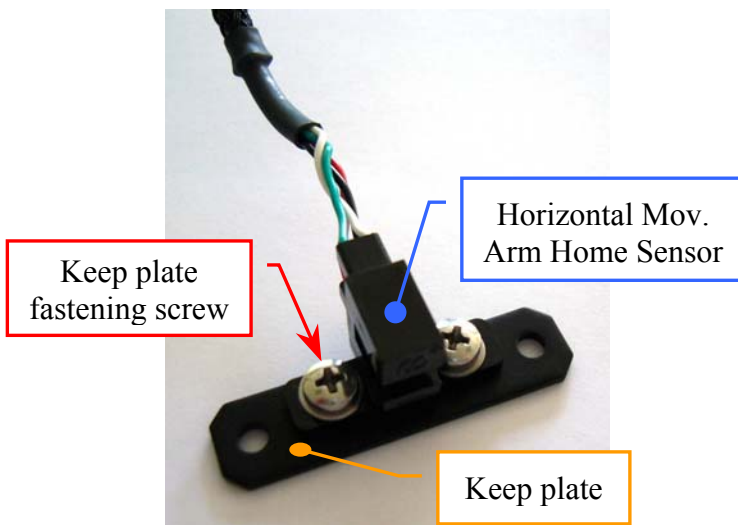

Fig. 24 – Keep plate fastening screws of the Horizontal Mov. Arm Home Sensor
4. Unscrew the two keep plate fastening screws of the Horizontal Mov. Arm Home Sensor (**Fig. 24**) and take out the sensor from the keep plate.
5. Position the keep plate below the Horizontal Mov. Arm Home Sensor with the keep plate side proximal to the two central holes from the part of the threads of the sensor (as showed in the **Fig. 24**), center the sensor with respect the keep plate and screw its two fastening screws.